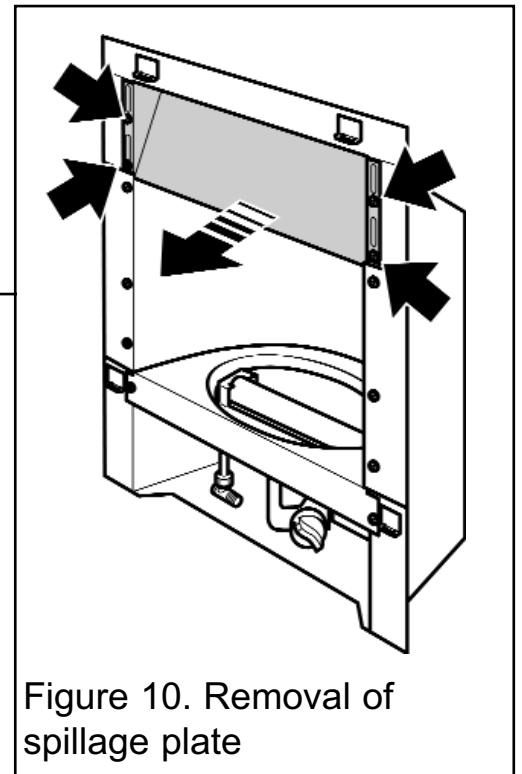

Figure 10. Removal of spillage plate
1. Detach the spillage plate from the hotbox by removing the four screws (See figure 10).